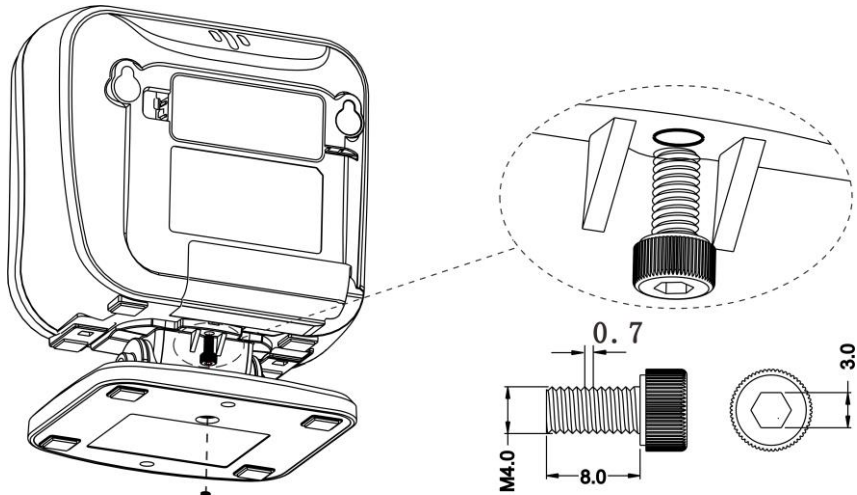

Figure 10-2
2. As shown in Figure 10-2, we'll connect the image platform with the stand by tightening the single screw.